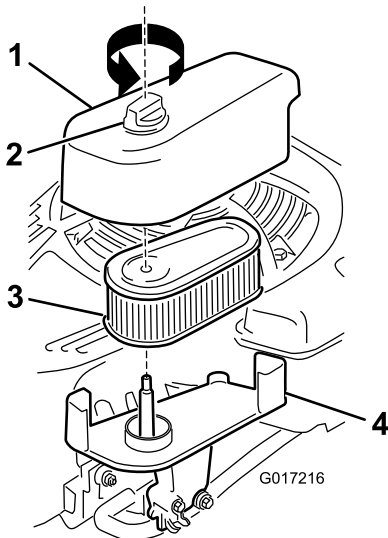

Figure 30
1. Loosen the fastener and remove the air-filter cover (Figure 30).